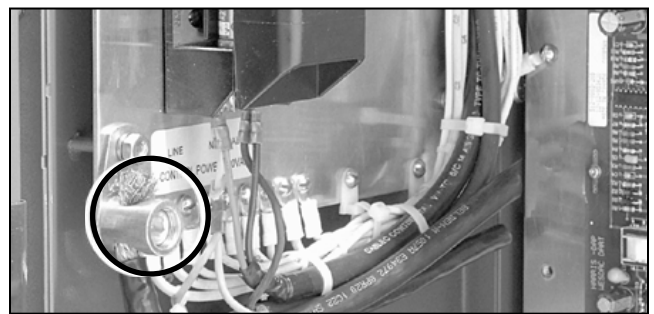

Figure 123. The copper lug and the fuse block.
- (g) Connect the heavy shielded cable to the copper lug on the low-voltage enclosure grounding plate. See Figure 123.
STEP 5. Connect the line and neutral to the fuse block. See the label under the fuse block. See Figure 123.